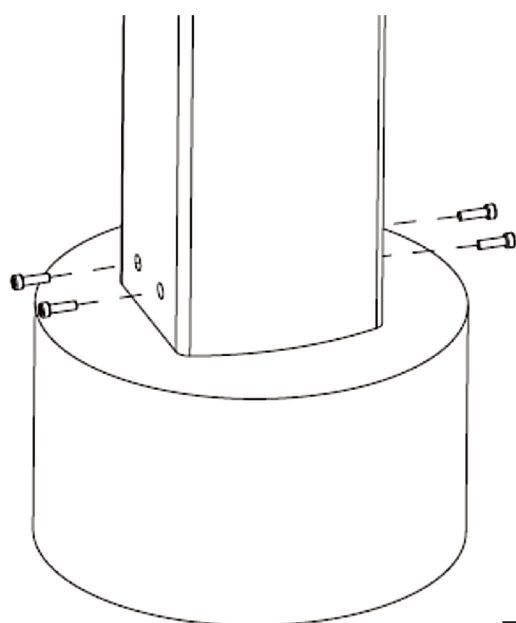

Fig. 8
- 8.) Place the shaft of the fixture onto the cement, aligning the holes of the mounting bracket with the holes in the shaft. Secure it to the bracket with the four (4) M6 bolts (refer to **Fig. 8**).